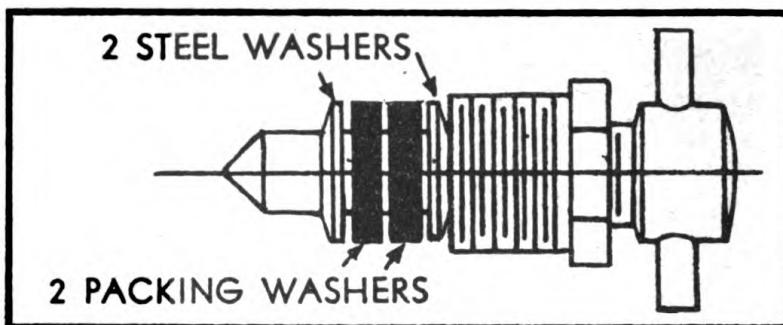

FIGURE 69. SUPPORT JACK RELEASE SCREW
- (5) A nicked screw should be replaced.
- (6) When reassembling release screw avoid loose threads off packing.
- (7) Sketch above (Figure 69) will aid in assembling release screw correctly.
- h. *Ram cup.*—(1) A worn or loose ram cup will cause your jack to lower under load and leak oil around the ram.